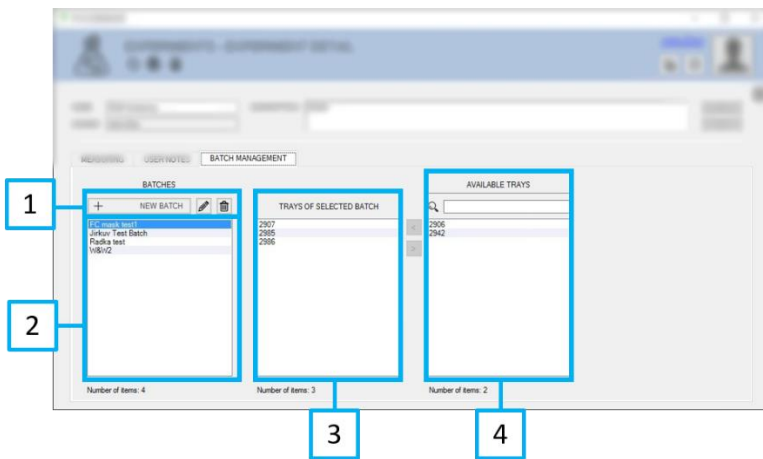

Fig. 22 Batch management window
*Batch management* tab contains controls for creating, editing and deleting groups of trays (Fig. 22). Batch refers to a set of trays to be measured with a pre-defined protocol and must contain at least one tray. The batch is then selected in the *Measure Item* of the measurement protocol using *Add Recipe* button (see chapter 4.7.6.) Multiple recipes with different protocols and batches can be used in a same action.